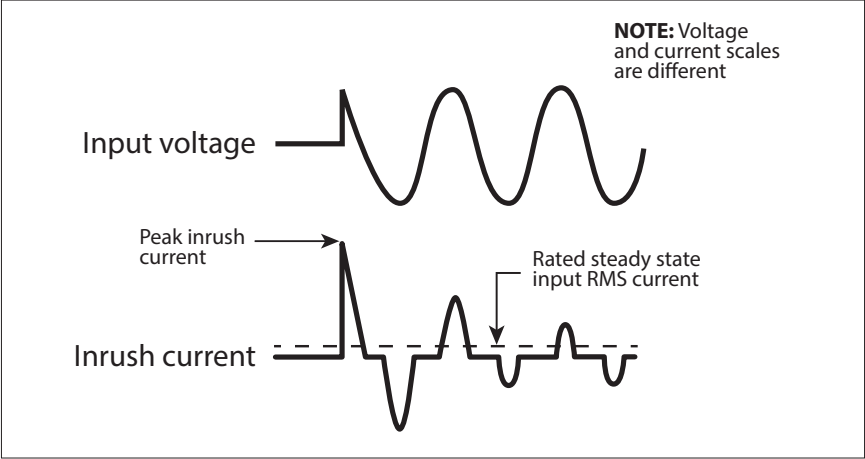

Fig 4.1: Inrush current in an SMPS
- **AC to DC Switched Mode Power Supplies (SMPS):** This type of power supply is used as stand-alone power supply or as front end in all electronic devices powered from Utility/Grid e.g. in audio/video/computing devices and battery chargers (Please see Section 4 for more details on SMPS). When this power supply is switched ON, its internal input side capacitors start charging resulting in very high surge of Inrush Current for a few milliseconds (Please see Fig 4.1). This surge of inrush current/power may reach up to 15 times the Continuous Maximum Running Power Rating. The surge of inrush current/power will, however, be limited by the Surge Power Rating of the AC source.
Switch Mode Power Supplies (SMPS) are extensively used to convert the incoming AC power into various voltages like 3.3 V, 5 V, 12 V, 24 V etc. that are used to power various devices and circuits used in electronic equipment like battery chargers, computers, audio and video devices, radios etc. SMPS use large capacitors in their input section for filtration. When the power supply is first turned on, there is a very large inrush current drawn by the power supply as the input capacitors are charged (The capacitors act almost like a short circuit at the instant the power is turned on). The inrush current at turn-on is several to tens of times larger than the rated RMS input current and lasts for a few milliseconds. An example of the input voltage versus input current waveforms is given in Fig. 4.1. It will be seen that the initial input current pulse just after turn-on is > 15 times larger than the steady state RMS current. The inrush dissipates in around 2 or 3 cycles i.e. in around 33 to 50 milliseconds for 60 Hz sine wave.